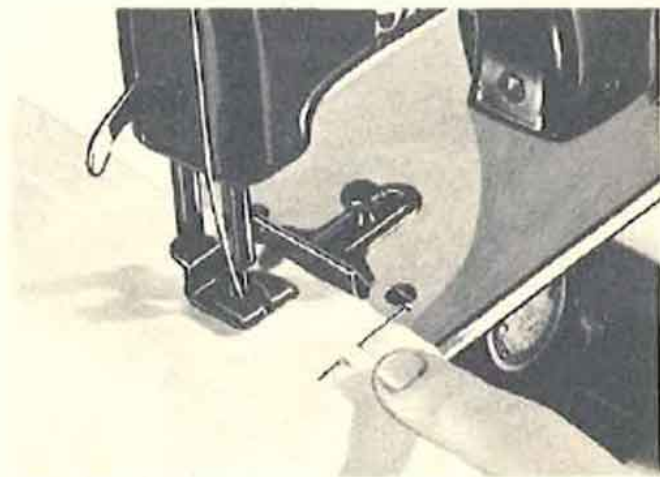

FIGURE 42
**PLAIN** — Keep two edges even and pin baste. Stitch as in Figure 42 . . . remove pins as you work. When using a pattern follow instructions for width of seam allowed.